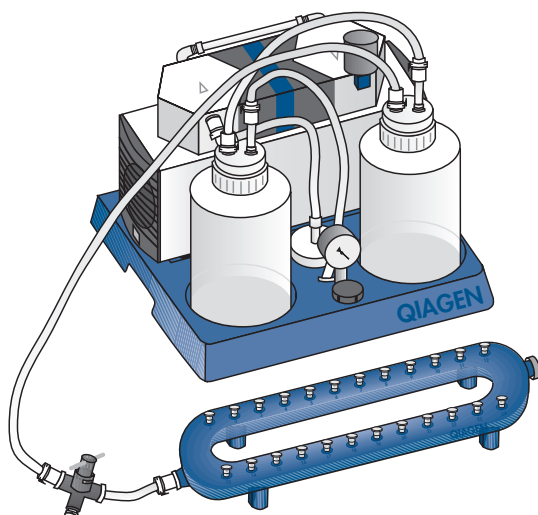

Figure 2. QIAvac 24 Plus, QIAvac Connecting System, and Vacuum Pump.
QIAamp Mini columns are processed on the QIAvac 24 Plus using disposable VacConnectors and reusable VacValves. VacValves (optional) are inserted directly into the luer slots of the QIAvac 24 Plus manifold and ensure a steady flow rate, facilitating parallel processing of samples of different natures (e.g., blood and body fluids), volumes, or viscosities. They should be used if sample flow rates differ significantly in order to ensure consistent vacuum. VacConnectors are disposable connectors that fit between QIAamp Mini columns and VacValves or between the QIAamp Mini columns and the luer slots of the QIAvac 24 Plus. They prevent direct contact between the spin column and VacValve during purification, thereby avoiding any cross-contamination between samples. VacConnectors are discarded after a single use. Due to the large solution volumes used, the QIAvac Connecting System (or similar setup with waste bottles) is required (see Figure 2).
3. **Insert a VacConnector into each VacValve (see Figure 2).**